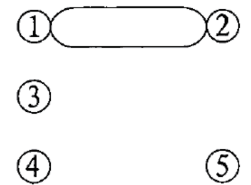

Figure 12.2: Tap setting example 2
- 10.5kV (high), with the power turned off, the upward links of the tap should be connected, as shown in Figure 12.2.